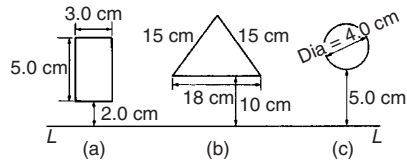

Figure 7.23
5. For each of the areas shown in Figure 7.23 determine the second moment of area and radius of gyration about axis LL , by using the parallel axis theorem.